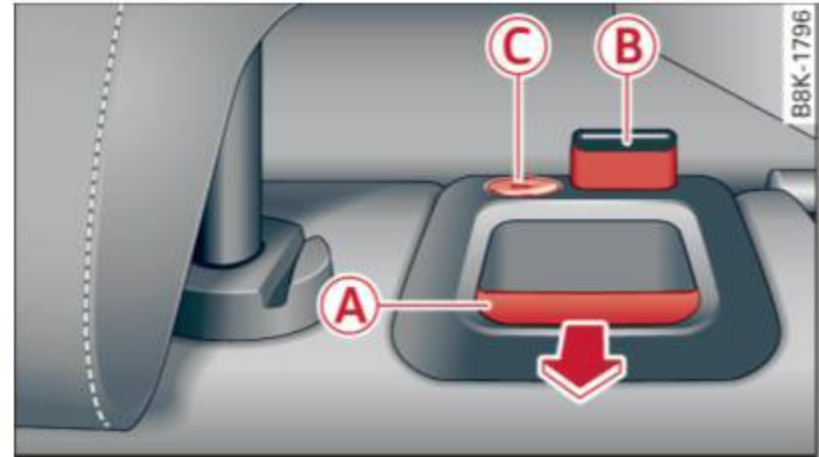

Fig. 65 Backrest: release lever, securing knob and latch
- ▶ Pull the release lever **A** ⇒ *fig. 65* in the direction of the arrow to fold the backrest forward.
You can lock the backrest when it is latched in place using the mechanical key ⇒ *page 34 C* ⇒ *fig. 65*. This prevents any access to the luggage compartment from the vehicle interior.